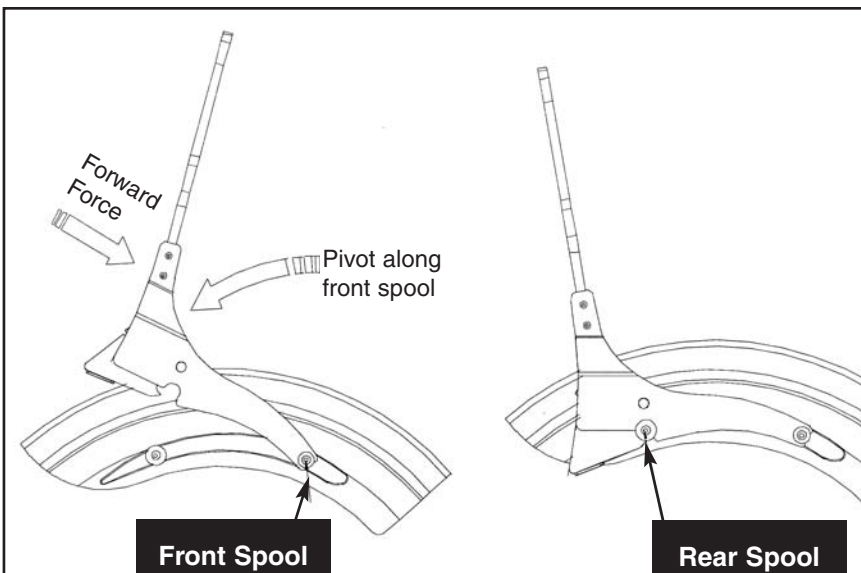

Figure 4
7. Check that QuickSet 3 is unlocked. Install backrest assembly onto motorcycle by first positioning side plates on front spools. With smooth continuous forward force, rotate the backrest assembly downward on to the rear spools while pushing down firmly to engage side plate latch mechanism with the rear spools. **Figure 4.**